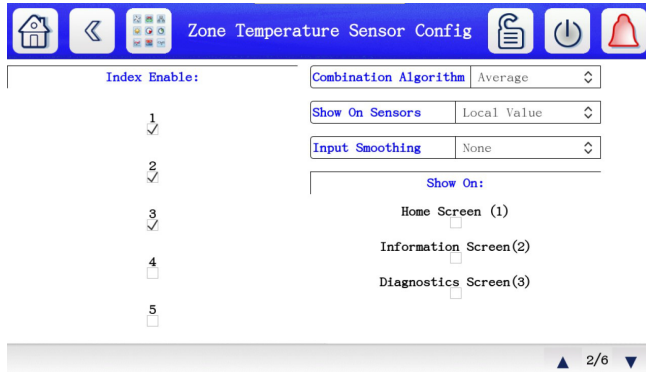

Fig. 20 — Zone Temperature Sensor Configuration Screen
- 9. Use Zone Sensor Config screens 2-6 to select the sensors and the system behavior for temperature, relative humidity, CO₂, motion, and space temperature offset readings. See Fig. 20 for sensor temperature configuration screen example.